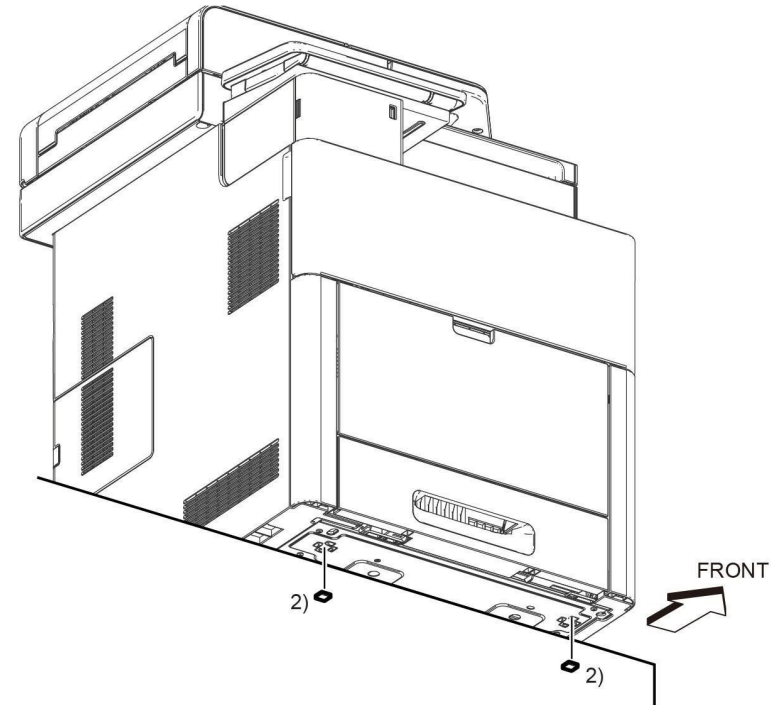

Figure 1 Install new Front Bottom Feet
2. Refer to **Figure 1** to install the new front two feet.